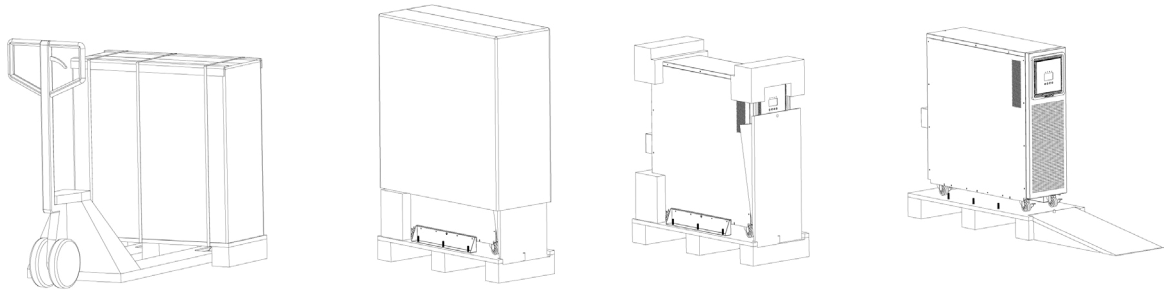

Fig. 3. Unpacking sequence
- To unpack the device, follow the sequence in Figure 3 (cut the straps of the cardboard packaging and lift it off as if it were a cover or dismantle it with the necessary tools if it is made of wood); remove the corners and plastic cover. This will leave the UPS standing on the pallet.
- Position the ramp as shown in Figure 3 and remove the device from the pallet.